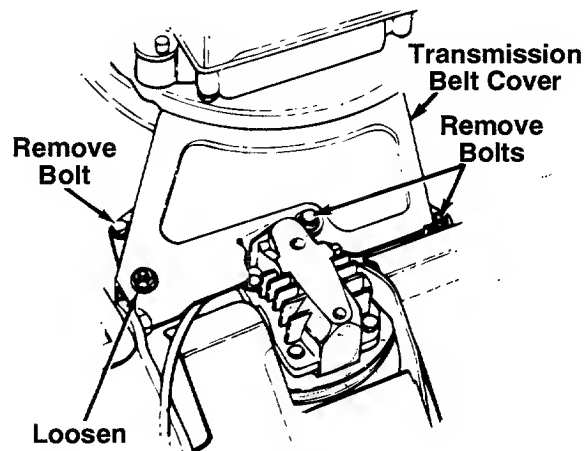

FIGURE 12.
3. Remove the transmission belt cover by removing three bolts. See figure 12.